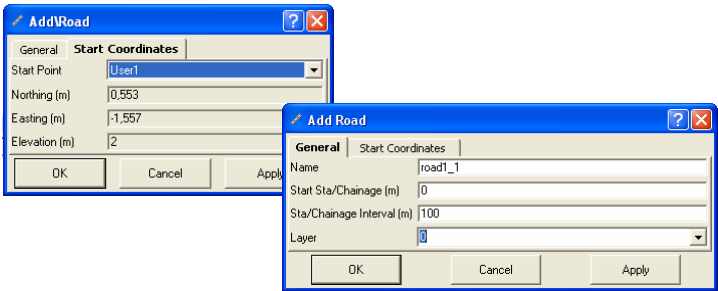

Figure 9-25. Add Road Dialog Box
2. In the *Start Coordinates* tab of the **Add Road** dialog box, select the start point of the road from the drop-down list (Figure 9-25). The coordinates of the selected start point will display.
3. In the *General* tab of the **Add Road** dialog box, enter the following information (Figure 9-25):